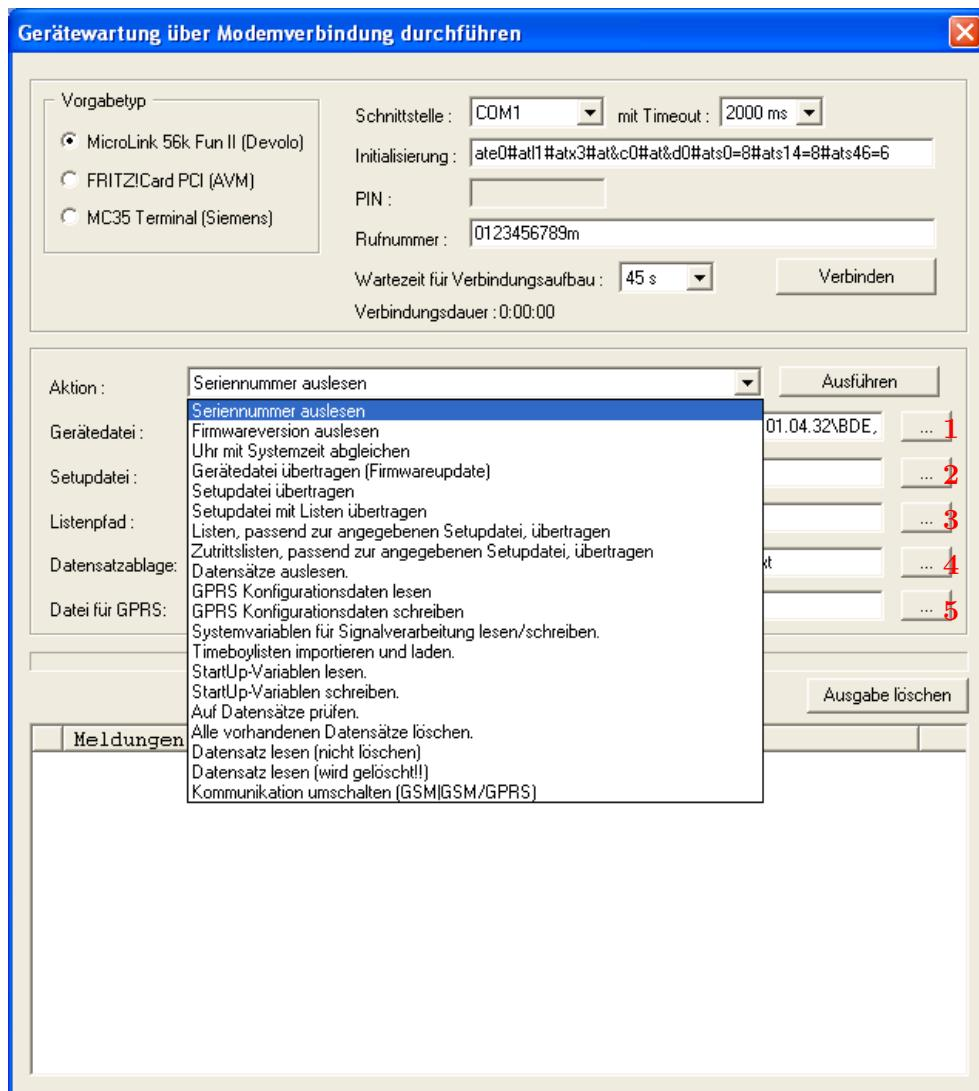

Figure 69: Device maintenance via modem connection
- ▶ Transmit device file (firmware update) - Via the button 1 in figure 69 a dialogue opens where you can select the device file with the extension ".hex". When you have marked the file, you can take it over via the button "Open".
- ▶ Transmit setup file - Via the button 2 in figure 69 a dialogue opens where you can select the setup file with the extension ".aes". When you have marked the file, you can take it over via the button "Open".
- ▶ Transmit setup file with lists - Via the button 3 in figure 69 a dialogue opens where you can define the folder (path) that contains the list files.
- ▶ Transmit lists matching to the given setup file - Only the list data of the button (3) are transmitted here.
- ▶ Transmit access lists matching to the given setup file - Here the access lists have to be assigned to the button (3)